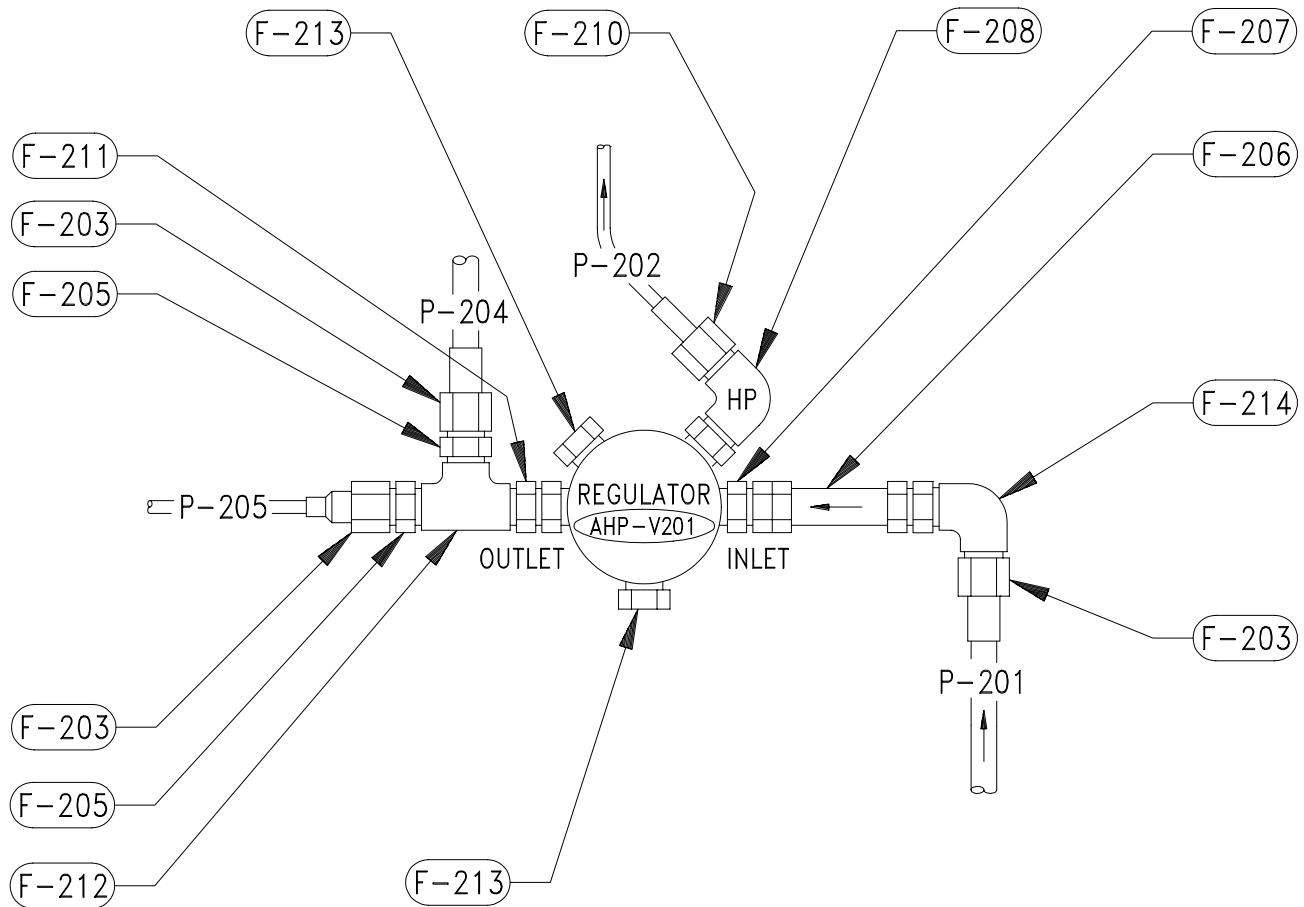
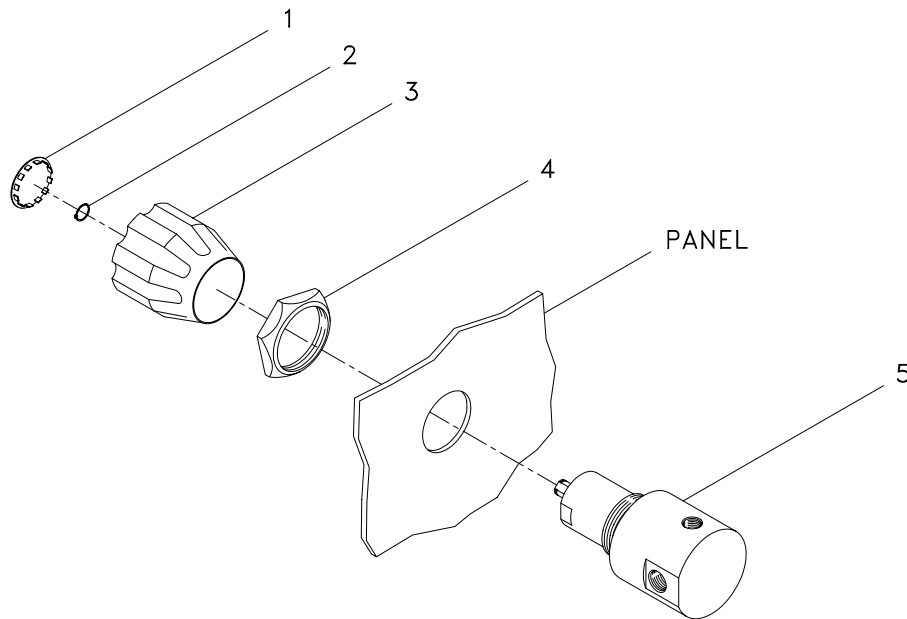

Figure 6-20. Location of Parts Attached to Regulator (AHP-V201)
Figure 6-21. Tescom HP Regulators (AHP-V201, AHP-V307)
Refer to Figure 6-20 for the location of parts called out in Steps (6) thru (8) and (10) thru (13). Figure 6-20 reflects a portion of the volume tank assembly schematic found on JID 6314821, sheet 3.
- (6) **AT INLET PORT ELBOW (F-214):** Loosen tubing nut (F-203) and remove tubing (P-201) from elbow (F-214). Bag open end of tubing.
- (7) **AT HP GAUGE PORT ELBOW (F-208):** Loosen tubing nut (F-210) and remove tubing (P-202) from elbow (F-208). Bag open end of tubing.
- (8) **AT OUTLET PORT TEE (F-212):** At top of tee (F-212), loosen tubing nut (F-203) and remove tubing (P-204) from tee adapter (F-205). At left side of tee (F-212), loosen tubing nut (F-203) and remove tubing (P-205) from tee adapter (F-205). Bag open ends of tubing.
Refer to Figure 6-20 for location of components called out in Steps (2) thru (8) and (10) thru (12).
- (2) **AT LP GAUGE AND VENT PORTS:** Remove bagging from the two bleeder plugs (F-213). Using approved lubricant, lubricate two new O-rings (M83248/2-904) and install on bleeder plugs (F-213). Install bleeder plugs in regulator vent port and unused LP gauge port.
- (3) **AT OUTLET PORT:** Remove bagging from tee (F-212). Using approved lubricant, lubricate one new O-ring (M83248/2-908) and install on positionable union (F-211). Install positionable union end of tee (F-212) in regulator outlet port. Tighten union nut.
- (4) Using approved lubricant, lubricate two new face seal O-rings (M83248/2-111) and install in O-ring grooves in tee adapters (F-205).
- (5) **AT HP GAUGE PORT:** Remove bagging from elbow (F-208). Using approved lubricant, lubricate one new O-ring (M83248/2-904) and install on straight threads of elbow (F-208). Install elbow in regulator HP gauge port.
- (6) Using approved lubricant, lubricate one new face seal O-ring (M83248/2-010) and install in O-ring groove in elbow (F-208).
- (7) **AT INLET PORT:** Remove bagging from positionable union (F-207), HP supply air filter (F-206), and elbow (F-214). Using approved lubricant, lubricate one new O-ring (M83248/2-908) and install on positionable union (F-207). Install end with positionable union (F-207) in regulator inlet port and tighten union nut.
- (8) Using approved lubricant, lubricate one new face seal O-ring (M83248/2-111) and install in O-ring groove in elbow (F-214).
Corrective maintenance for Tescom HP regulator (AHP-V201) includes removal and replacement, or repair if the capability for such repair exists at the organizational level. For removal and replacement, follow the procedure provided below, and unless otherwise noted, refer to Figure 6-21 for parts location and to Figure 7-34 for an index of replacement parts. For repair guidance, refer to the manufacturer's technical documentation and to the illustrated parts breakdown in Figure 7-34.
Refer to Figure 6-20 for the location of parts called out in Steps (4) thru (6) and (8) thru (11). Figure 6-20 reflects a portion of the volume tank assembly schematic found on sheet 3 of JID 6314821.
- (4) **AT INLET PORT ELBOW (F-214):** Loosen tubing nut (F-203) and remove tubing (P-201) from elbow (F-214). Bag open end of tubing.
- (5) **AT HP GAUGE PORT ELBOW (F-208):** Loosen tubing nut (F-210) and remove tubing (P-202) from elbow (F-208). Bag open end of tubing.
- (6) **AT OUTLET PORT TEE (F-212):** At top of tee (F-212), loosen tubing nut (F-203) and remove tubing (P-204) from tee adapter (F-205). At left side of tee (F-212), loosen tubing nut (F-203) and remove tubing (P-205) from tee adapter (F-205). Bag open ends of tubing.
- (7) While maintaining a firm hold on the regulator, remove panel nut (Figure 6-21, 4) from housing (5). Carefully remove regulator with fittings still attached.
- (8) **AT INLET PORT:** Loosen nut on regulator end of positionable union (F-207) in counterclockwise direction and remove union, HP supply air filter (F-206), and elbow (F-214) as a unit from regulator inlet port. Remove, cut, and discard exposed union O-ring (M83248/2-908) and elbow face seal O-ring (M83248/2-111). Bag removed components as a unit or bag open ends.
- (9) Insert regulator through rear opening in panel, then reach around panel and install panel nut (Figure 6-21, 4) on housing (5). To maintain correct positioning of ports, hold regulator securely while tightening panel nut.
- (10) **AT OUTLET PORT TEE (F-212):** Remove bagging from tubing (P-205), and install tubing to tee adapter (F-205) located on left side of tee (F-212). Tighten tubing nut (F-203). Remove bagging from tubing (P-204), and install tubing to tee adapter (F-205) located on top of tee (F-212). Tighten tubing nut (F-203).
- (11) **AT HP GAUGE PORT ELBOW (F-208):** Remove bagging from tubing (P-202) and install tubing to elbow (F-208). Tighten tubing nut (F-210).
- (12) **AT INLET PORT ELBOW (F-214):** Remove bagging from tubing (P-201) and install tubing to elbow (F-214). Tighten tubing nut (F-203).
- (13) At front of panel, install hand knob (Figure 6-21, 3) on housing (5). Insert retaining ring (2) into adjusting screw assembly (not shown).
- (14) Install hole plug (1) into hand knob (3).
- (15) Apply pressure to volume tank assembly from primary HP air source. Operate regulator through turning arc and leak test using NID solution prepared in accordance with paragraph 4.7.3.2. Correct leaks as necessary.
- (16) Complete reentry control report and log.